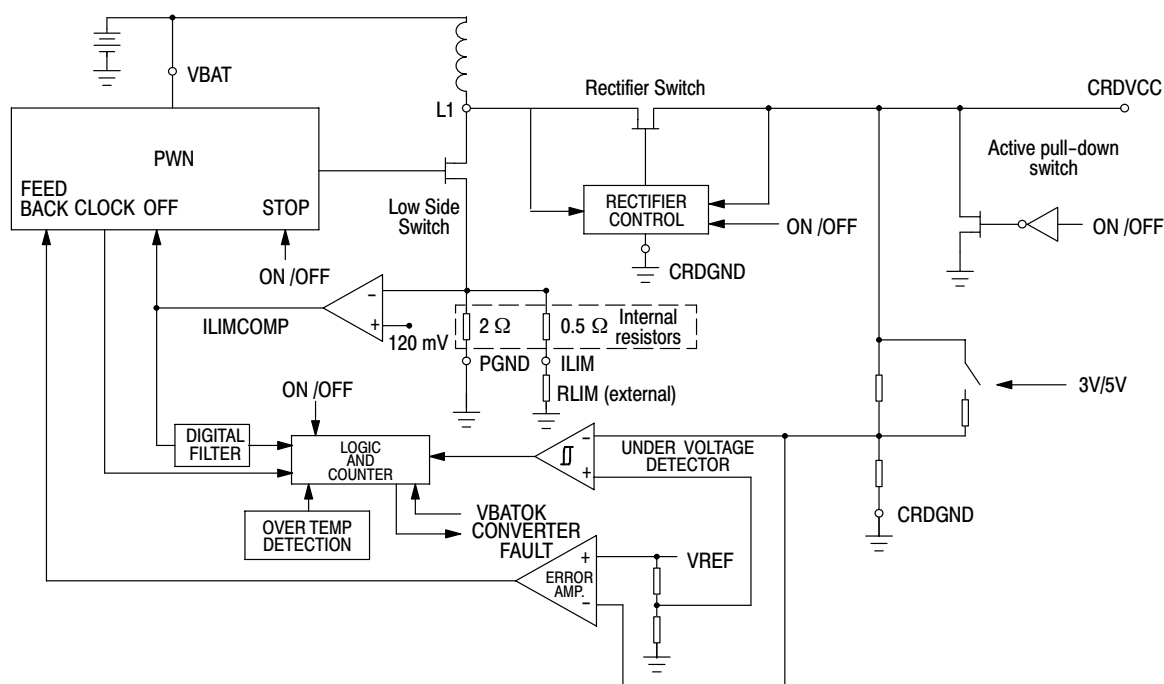

Figure 22. DC-DC Converter Functional Block
**DC–DC Converter Description:** The converter architecture is very similar to the boost architecture, with an active rectifier in place of the diode. The switching transistor is connected to ground through a resistor network in order to adjust the maximum peak current (Figure 22). A transistor connected to the converter output (**CRDVCC**) forces this pin to a low voltage when the converter is not operating. This prevents erratic voltage supply to the smartcard when not in use.